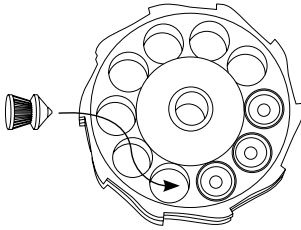

Fig. 10
3. Load pellets through the rear of the magazine. (Fig. 10). Push the pellet noses through the retaining O-ring until their skirts lie flush or below the bottom of the magazine face.